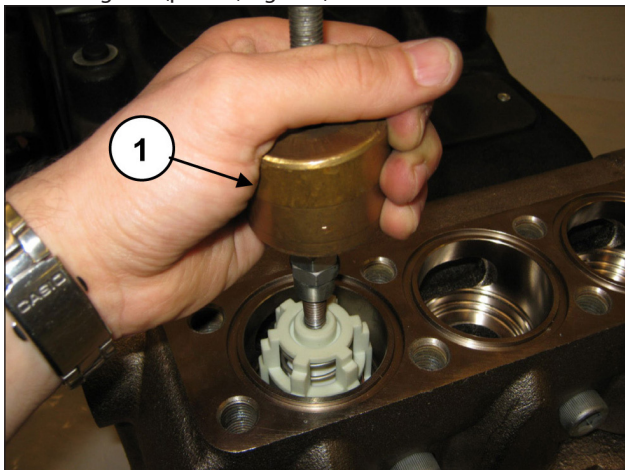

Fig. 135
Extract the outlet valve unit with the use of an extractor hammer (code 27516400) to be applied on the M10 hole of the valve guide (pos. ①, Fig. 135).